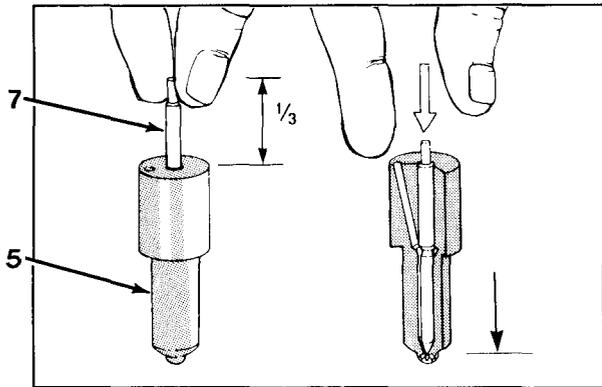

Figure 7-10
8. Dip needle valve in diesel fuel. Install needle valve into nozzle tip. Pull needle valve out of nozzle tip about one-third of the way. Release needle valve and let it slide back down into nozzle tip under its own weight (Figure 7-10). If needle valve fails the slide test, replace it.